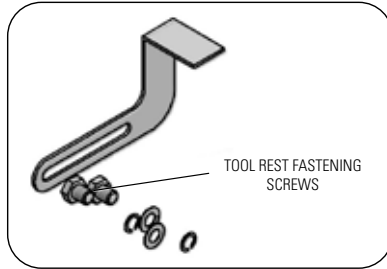

FIGURE 9.1
2. Adjust the distance between the grinding wheel and tool rest in order to keep 1/16" (1.6 mm) or less, as the diameter of the grinding wheel reduces due to wear. Figure 9.1. Adjust if there is interference. The proper adjustments of the tool rest will provide the adequate working angle for an efficient grinding.